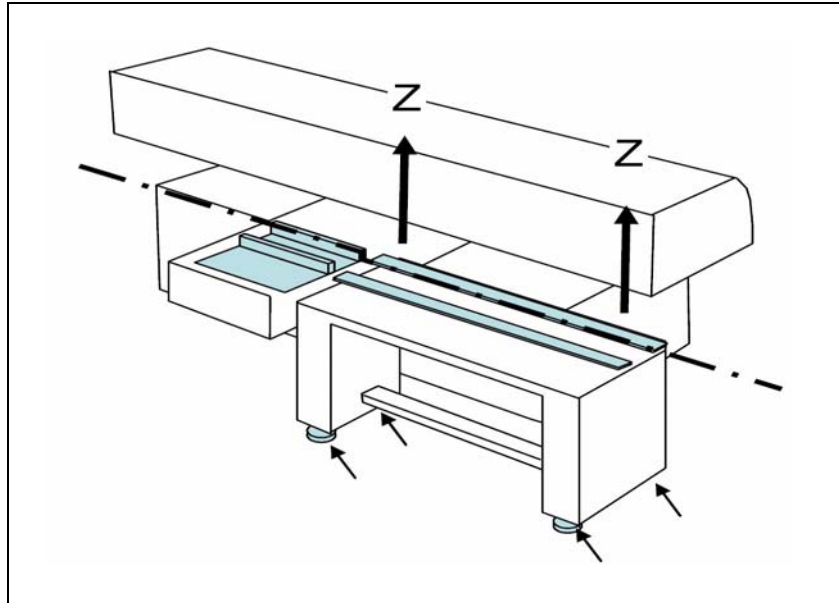

Figure 2-33. Adjust height of the upstream conveyor. Also make the upstream conveyor level using a spirit level.
1. Adjust the Z height of the upstream conveyor belt to within 1 mm of the T conveyor belt height. Use the adjustable feet on the upstream conveyor. Using a spirit level, make the upstream conveyor level. See Figure 2-33 for details.